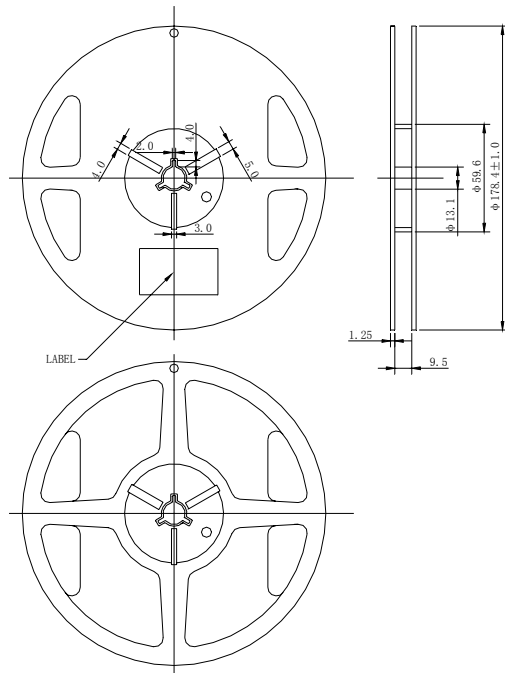

Fig.1
- 1) Packing material: Reel (Fig.1)